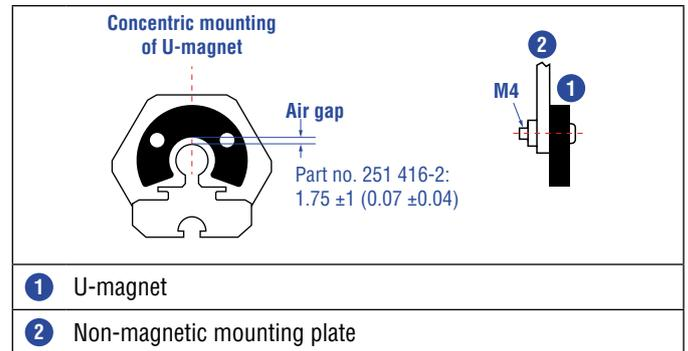
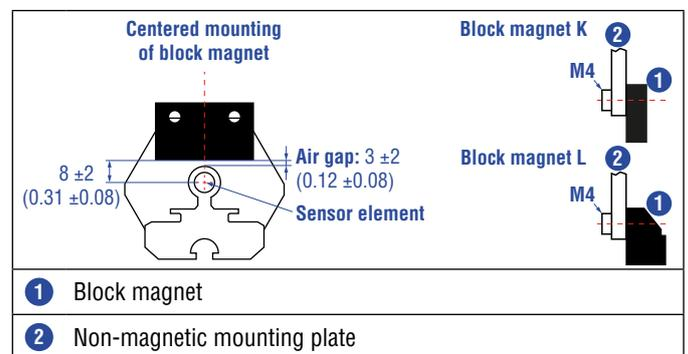

Fig. 65: Mounting of U-magnet (part no. 251 416-2)
Fig. 66: Mounting of block magnet K (part no. 251 298-2) and block magnet L (part no. 403 448)
- Mount block magnets centrically over the sensor rod or the sensor profile. The maximum permissible air gap must not be exceeded (Fig. 65/ Fig. 66).